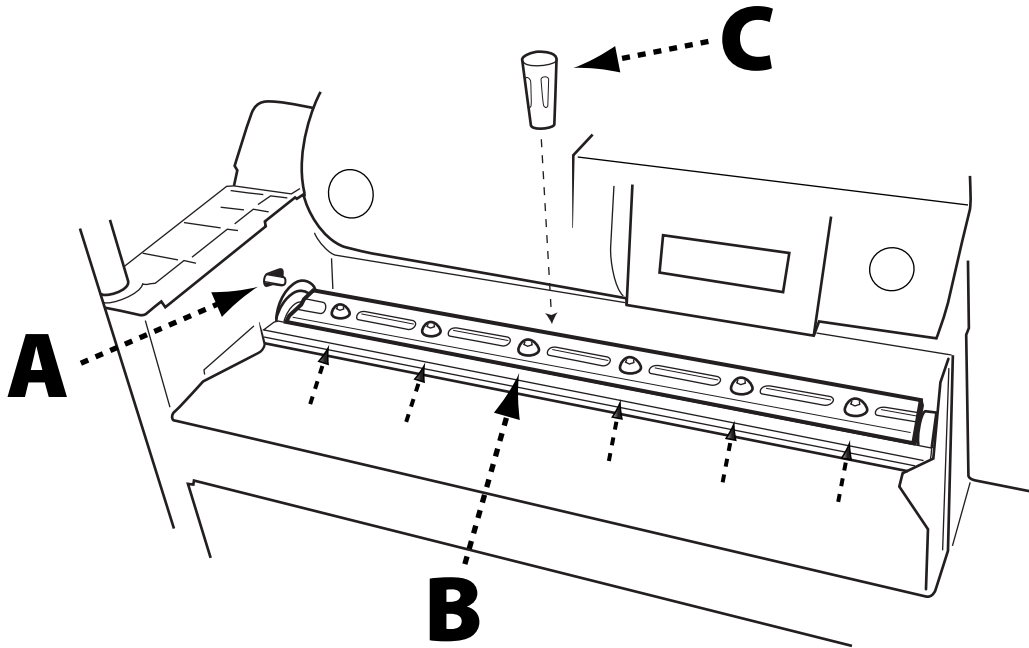

FIGURE 7
3. Lock the cutterhead in place. To do this, refer to Figure 7 and ensure the red spring-loaded lock tab (A) is in the forward position. Then carefully and slowly rotate the cutterhead until the tab locks in place and the cutterhead does not move.
4. Using the T-handle hex wrench supplied, loosen the six screws (B) securing each knife hold down bar and the knife to the cutterhead.
5. Use the magnetic end of the knife removal tool (C) to carefully lift off the hold down bar and then the knife.